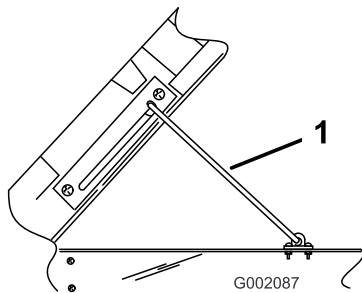

Figure 24
2. Pull the prop rod into the detent slot, securing the box (Figure 24).